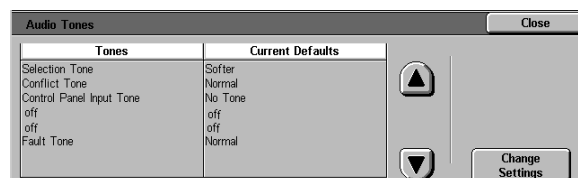

Figure 11: Audio Tones screen
- 1 On the Tools screen, touch the **Audio Tones** button to display the Audio Tones screen. See Figure 11.